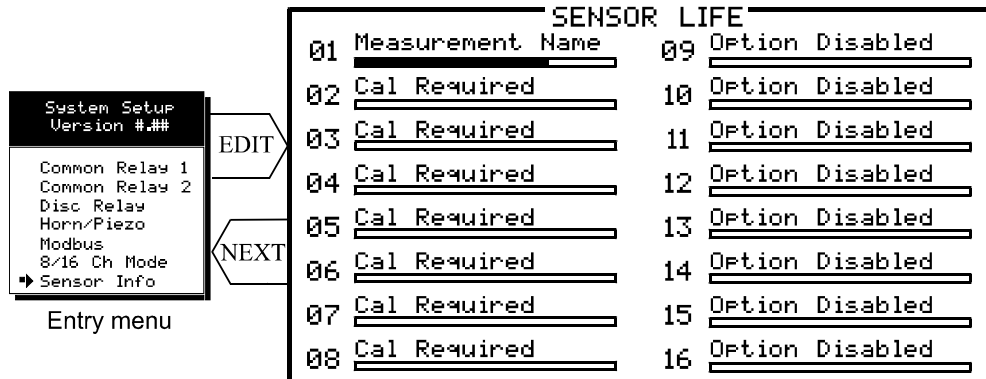

Figure 2.16
**Sensor Info** is available when at least one channel has **Sensor Life** activated in the **Marker** menu (see section 2.2.4b). The **Sensor Info** screen displays each channel's sensor status as illustrated in Figure 2.16. Channels with **Sensor Life** disabled indicate **Option Disabled** above the corresponding empty bar-graph. If **Sensor Life** is enabled, the channel will have its Measurement Name above the bar, or, an empty bar with a **Cal Required** label. **Cal Required** indicates no Calibration Marker value has been received by the ST-71.